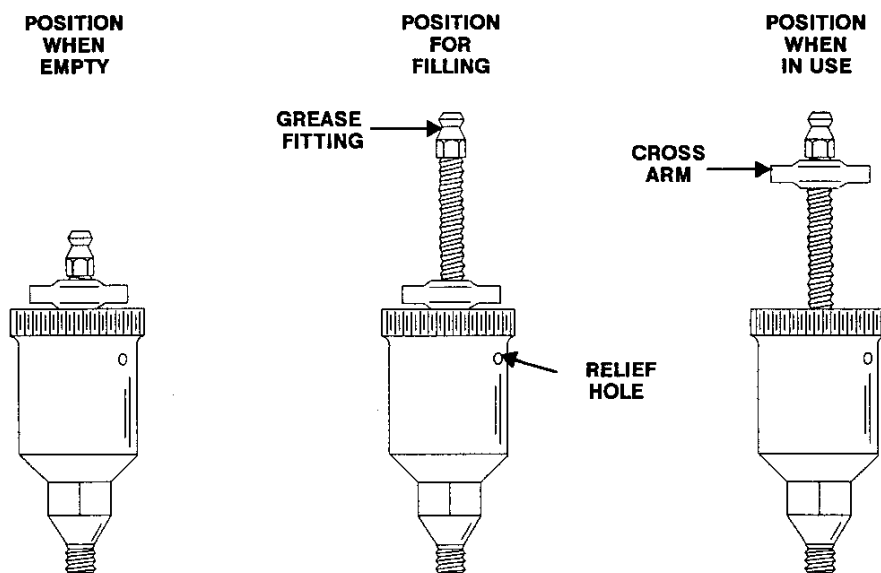

Figure 5. Automatic Lubricating Grease Cup
Fill the grease cup (14) through the grease fitting with No. 2 lithium base grease until grease escapes from the relief hole. Turn the grease cup arm counter-clockwise until it is at the top of the stem; this will release the spring to apply grease to the seal (see Figure 5).